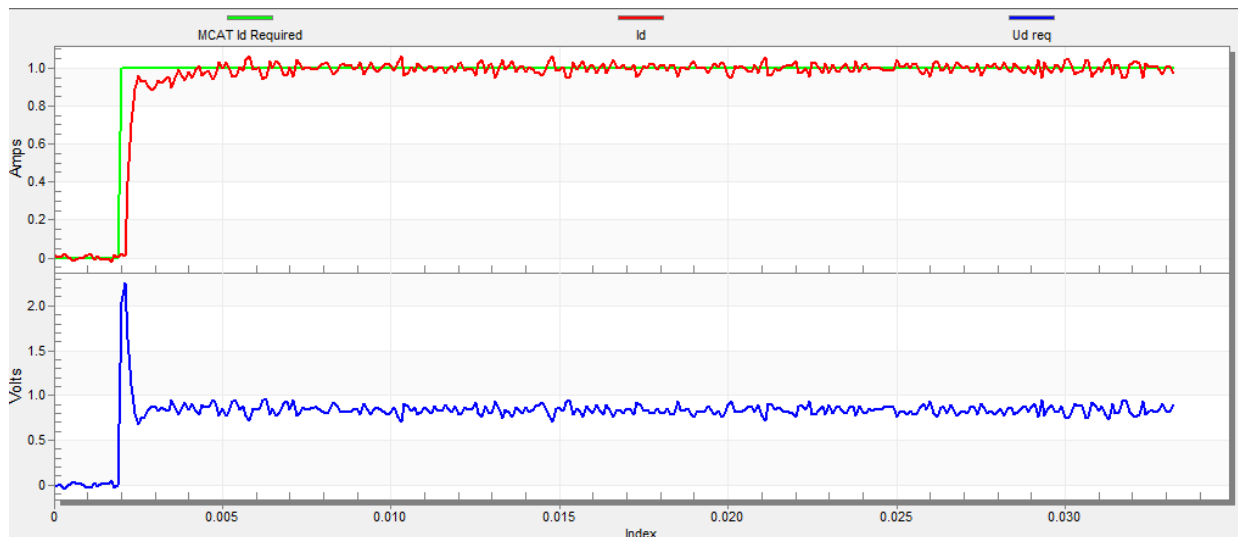

Figure 45. Optimal step response of the Id current controller
- The loop bandwidth (400 Hz) is optimal and the response time of the Id current is sufficient (see Figure 45).